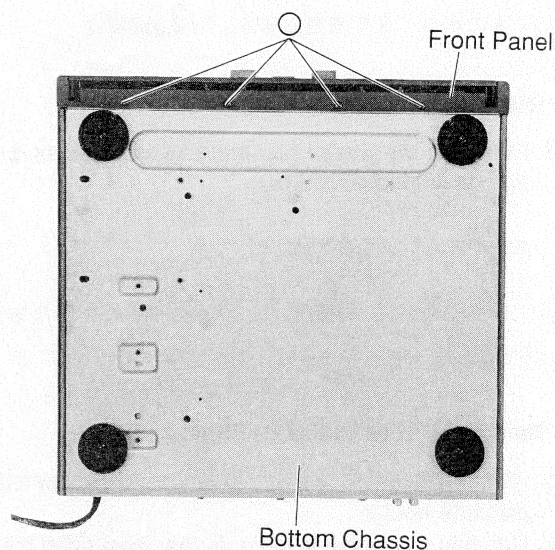

Figure 5
- (1) After removal of the top cover, remove four screws marked "○" as shown in Figure 5.
- (2) Disconnect all wires from the Deck Mechanism (A)/(B), Key Switch P.C.Board, REC Pause P.C.Board, Reverse Mode Switch P.C.Board, REC Volume P.C.Board, Dubbing Switch P.C.Board and DIR Indicator P.C.Board (A)/(B).
- (3) Front Panel with the Deck Mechanism (A)/(B), Key Switch P.C.Board, REC pause P.C.Board, Reverse Mode Switch P.C.Board, REC Volume P.C.Board, Dubbing Switch P.C.Board and DIR Indicator P.C.Board (A)/(B) can be removed completely.